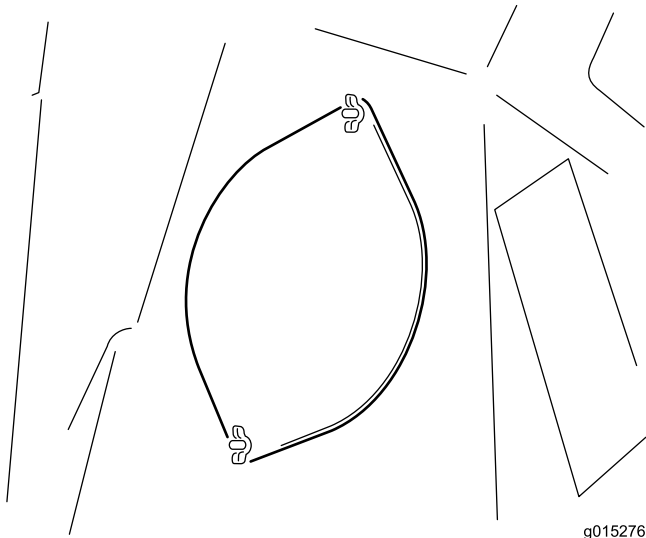

Figure 35
2. Loosen the 2 wing nuts securing the access plate (Figure 35).